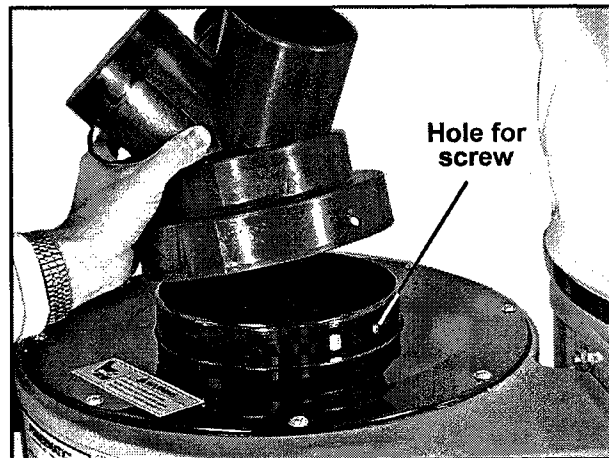

FIGURE 15
13. Two adaptors are provided with the dust collector. Place one upon the inlet as shown in Figure 15. A hole is provided on the inlet for a screw to secure a hose or an adaptor to the machine.